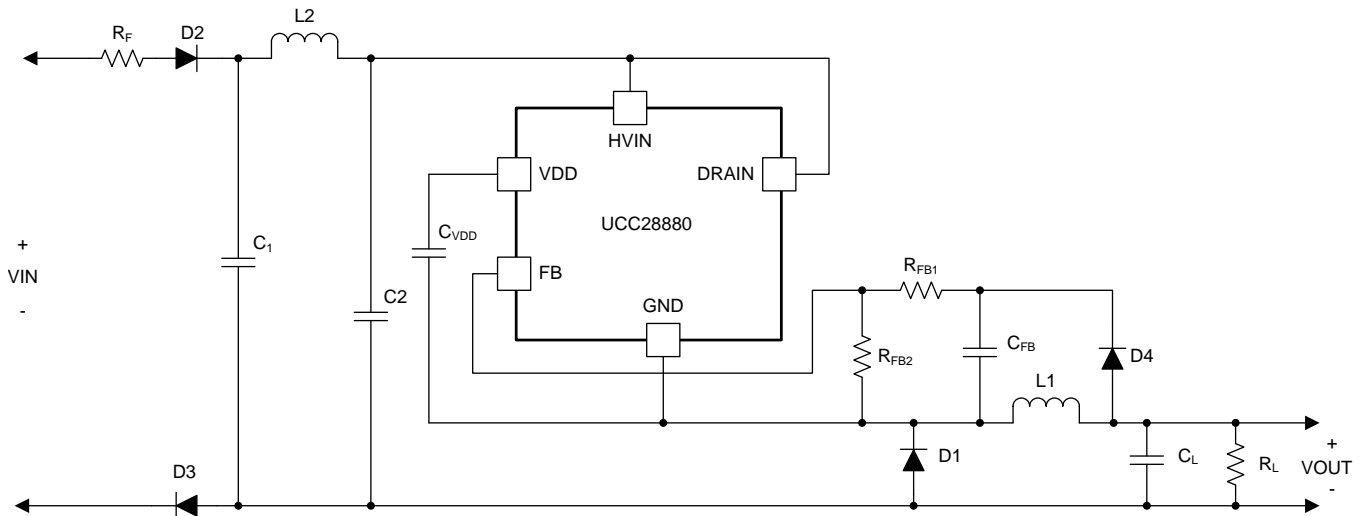

Figure 17. High-Side Buck Converter Schematic
Figure 17 shows a typical application example of a non-isolated power supply, where the UCC28880 is connected in a high-side buck configuration having an output voltage that is positive with respect to the negative high-voltage input (VIN-).
In low-side buck converter the output voltage is always sensed by the FB pin and UCC28880 internal controller can turn on the MOSFET on VOUT. In high-side buck converter applications the information on the output voltage value is stored on C_{FB} capacitor. This information is not updated in real time. The information on C_{FB} capacitor is updated just after MOSFET turn-off event. When the MOSFET is turned off, the inductor current forces the freewheeling diode (D1 in Figure 17) to turn on and the GND pin of UCC28880 goes negative at $-V_{d1}$ (where V_{d1} is the forward drop voltage of diode D1) with respect to the negative terminal of bulk capacitor ($C1$ in Figure 17). When D1 is on, through diode D4, the C_{FB} capacitor is charged at $V_{OUT} - V_{d4} + V_{d1}$. Set the output voltage regulation level using Equation 18.
- R_{FB1} , R_{FB2} is the resistance of the resistor divider connected with FB pin (see Figure 17)